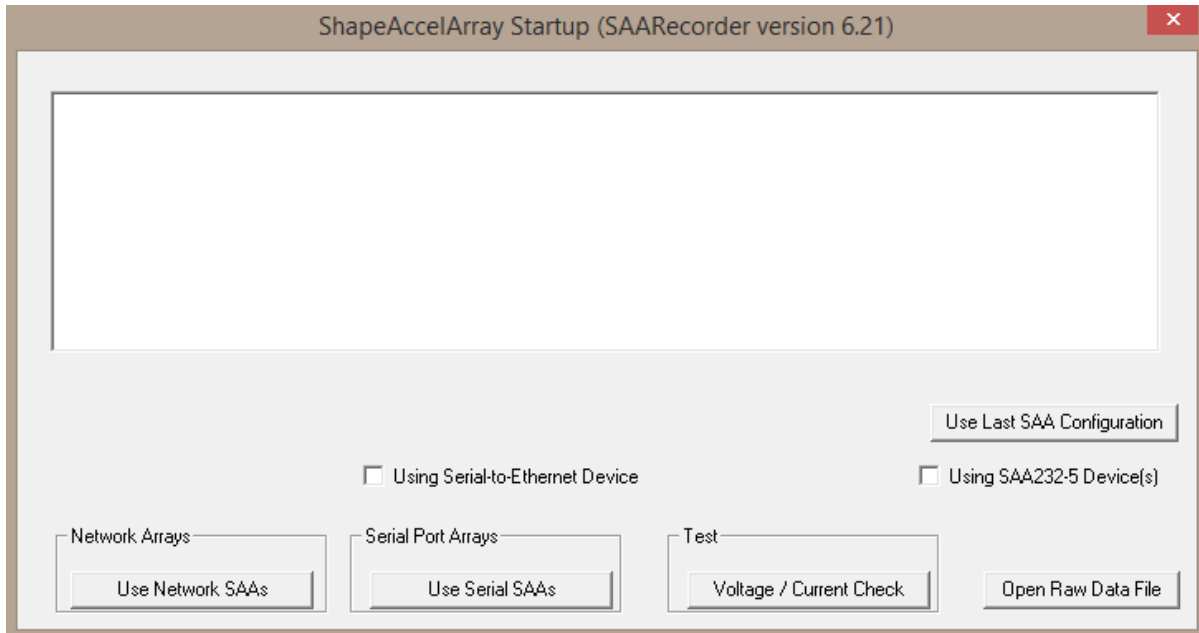

Figure 6.58: ShapeAccelArray 'Startup' window where a file, configuration or a connections needs to be chosen.
4. 'SAA Startup' window opens (see **Figure 6.58**) just as it processes and then closes to open the 'Basic Settings' window (see **Figure 6.19**). This window is where averaging is turned off or on and the referencing point is chosen. See **Section 6.4.1**.
- Opens the window in **Figure 6.58**.